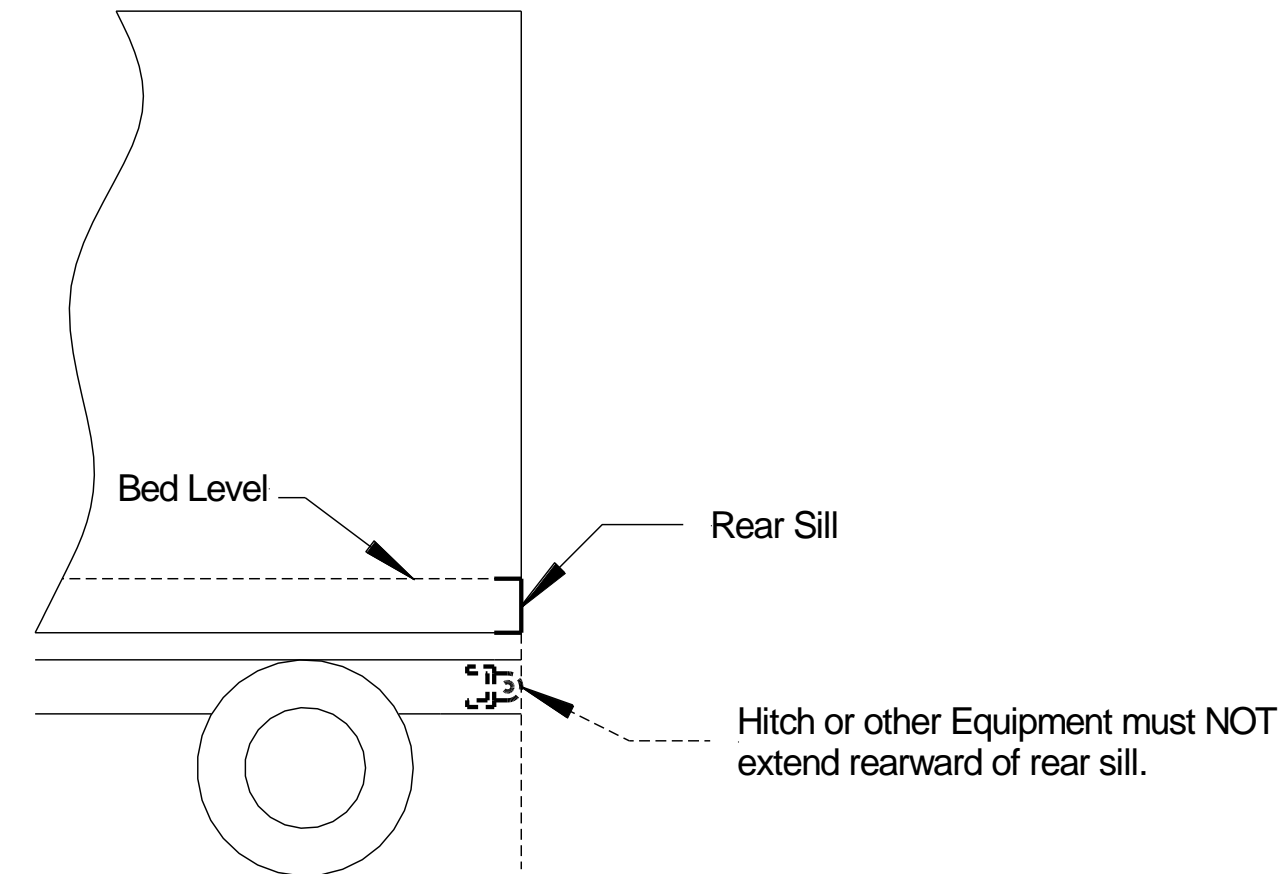

Fig.7
1. Relocate Hitch (If applicable): Trailer Hitches are common truck or trailer equipment and are compatible with the ILM plus series, however they **must not stick out** further than the rear sill. Relocate or remove tow hitch or other auxiliary equipment (If necessary) **Fig.7**.